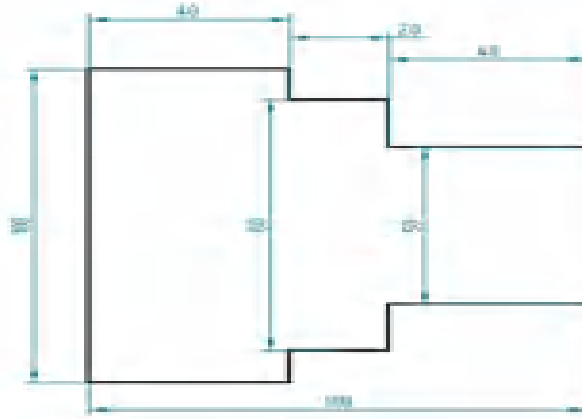

Fig 5(a)
5. a) Write the manual part programme for the part shown in figure 5 (a). 6M